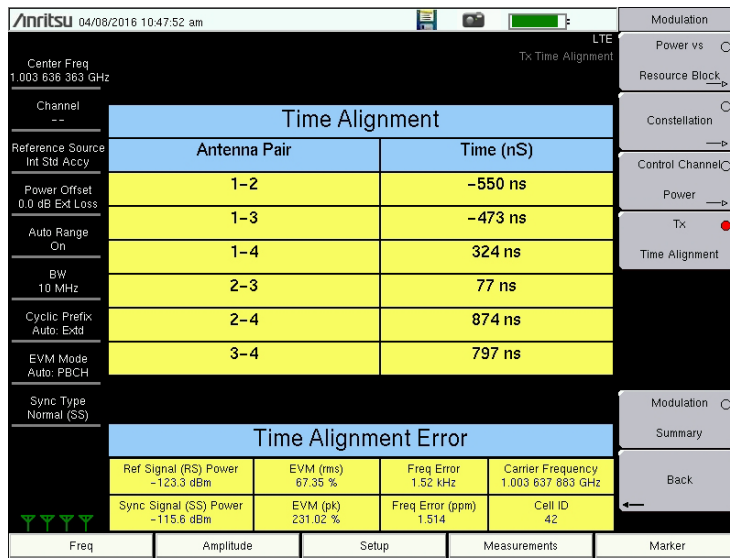
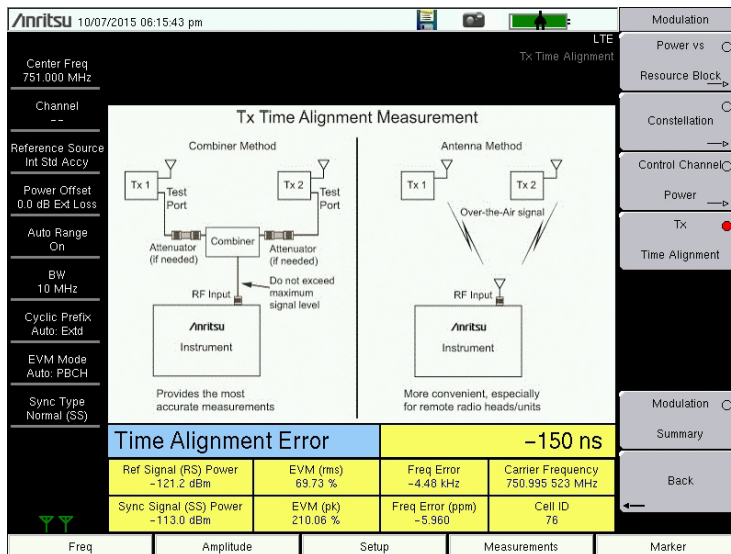

Figure 5-9. Tx Time Alignment (4x4 MIMO Configuration)
Figure 5-10. Tx Time Alignment
3. Press the Tx Time Alignment submenu key to set the modulation measurement to Tx Time Alignment view. The instrument display lists the Time Alignment measurement results and the TAE values for each antenna pair. See Figure 5-9. If your instrument is loaded with older firmware that does not support 4x4 MIMO, the display may look similar to Figure 5-10.